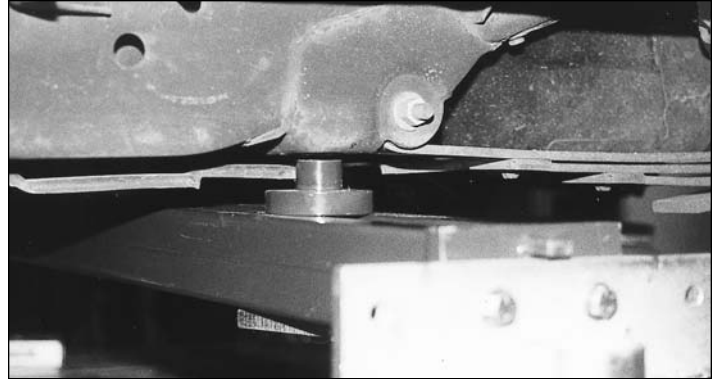
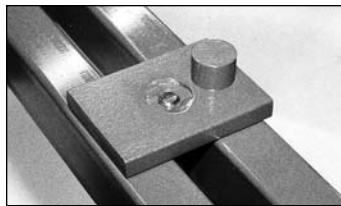
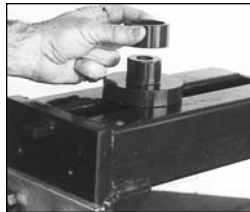

Figure 40
Figure 41
Figure 42
**Standard hole adapters** (optional accessory) attach to the crossbars and prevent lateral movement of structural components. Both the standard hole adapter (see Figure 40) and **offset hole adapter** (see Figure 41) have a 35mm diameter that can be expanded to 50 mm by adding an outer sleeve. (See Figure 42.)